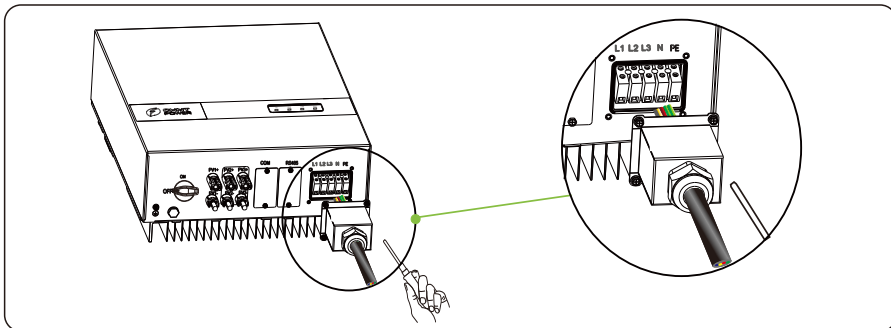

Figure 5.8 Tightening AC wiring cover
Step 5 Aligning with the hole position on the AC terminal cover, tighten the locking cap using a torque wrench with a torque of 1.2 N.m, as shown in Figure 5.8.
Step 6 Tighten the locking cap on the AC cable using a torque wrench with a torque of 5 N.m, as shown in Figure 5.8.